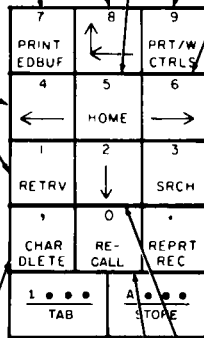

Fig. 10—Numeric/Edit Pad — Tabletop
3.12 The functions of the numeric/edit pad are described in Fig. 10.
2.01 A 100982 screwdriver, 1/4-inch, 6-inch blade, is required to secure wires to the Telex lines or cables to the PT unit (ASR) and line interface unit (if present). A 129534 1/4-inch wrench is required to remove the pedestal rear panel to remove or install packing details. Packing detail numbers are shown in Fig 10 through 14 for Pedestal Based KSR, Fig. 15 through 17 for Pedestal Based ASR and Fig. 23 for Tabletop Terminals.